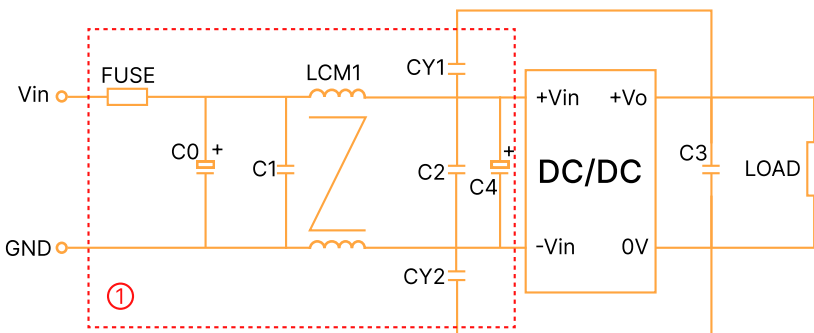

Figure 5: EMC compliance circuit
EMC and EMI tests Part ① in Fig. 5.